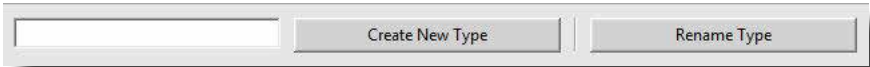

Figure 32: Plant Editor - Create New Type
1. Add a new type: Input the name of the type in the textbox on the top left side of the page and click “Create New Type” (Figure 32).